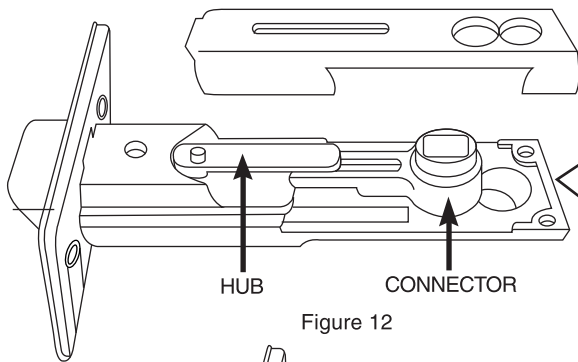

Figure 12
- b. To change Spring Latch backset from 2-3/8" to 2-3/4" remove two round head screws and carefully turn over the backset. Remove cover and move hub and connector to the back hole at 2-3/4" position. Put cover back and tighten screws (Figure 12,13,14).